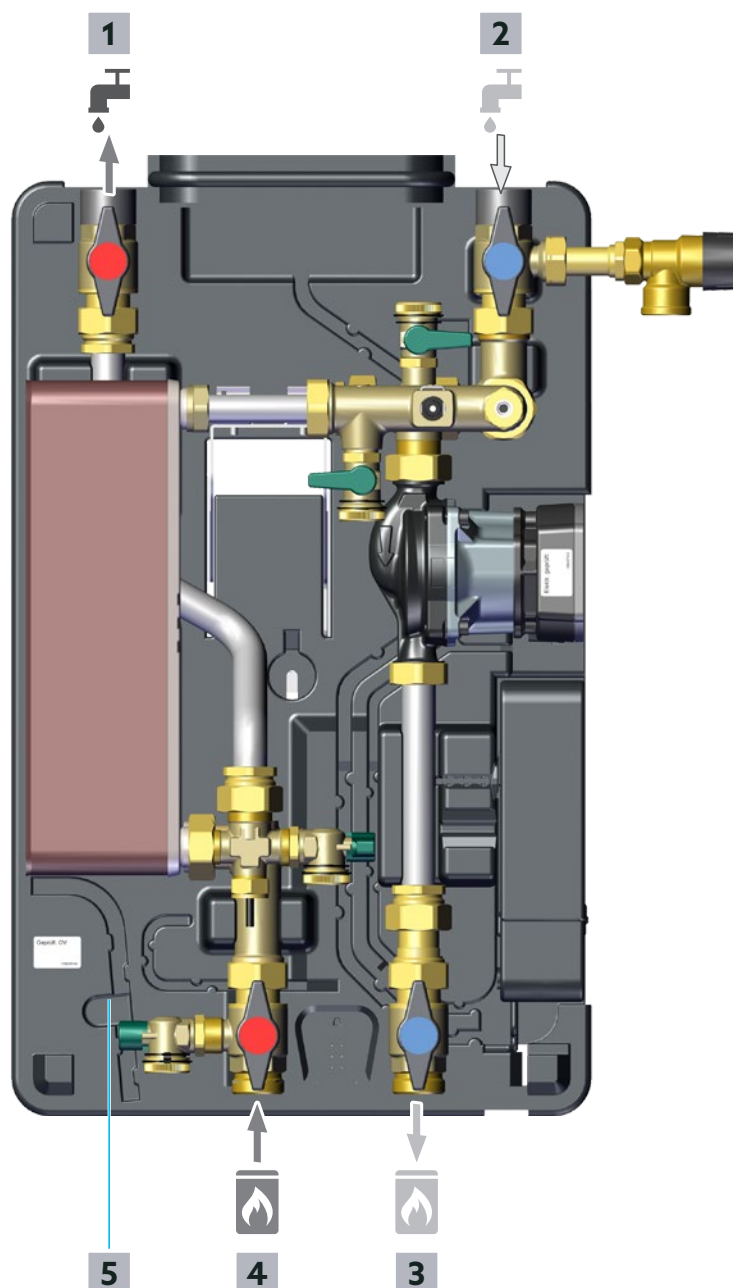

Fig. 14: Functional description
- If necessary, mount another potable water filter (TF) (Oventrop accessory) as close as possible to the cold water connection of the station.
- Install a backflow preventer (position 4 in Fig. 4 on page 14) in the cold potable water supply (position 2 in Fig. 14 on page 22) to separate the cold potable water from the already heated potable water within the station.